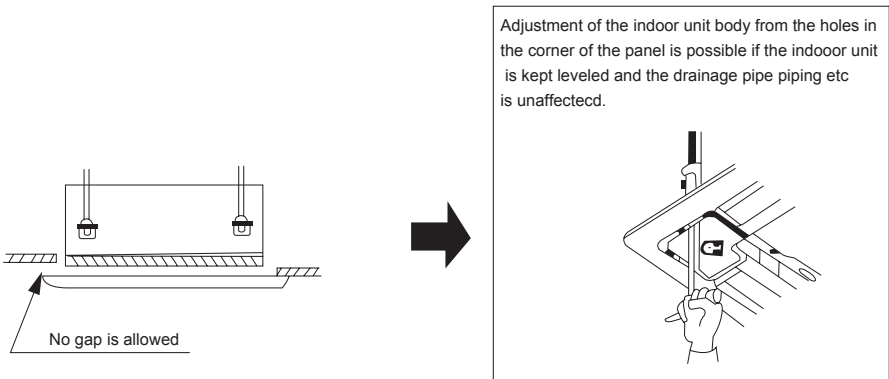

Fig.30
(2) If gap is still left between the ceiling and the panel after screwing the screws, readjust height of the indoor unit body. (Refer to Fig.30)